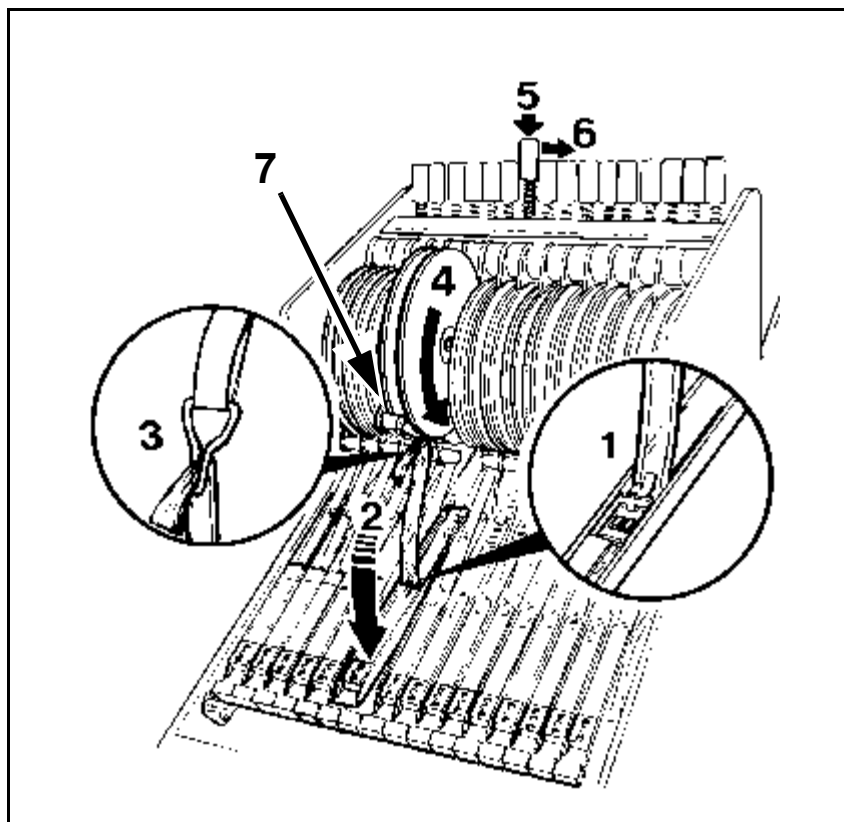

Figure 4-32. Excess of cover tape onto the reel
- 8.** Thread the cover tape through the opening and under the spring of the feeder rail ('1' in Figure 4-32).
- 9.** Push down the feeder rail until locked (2).